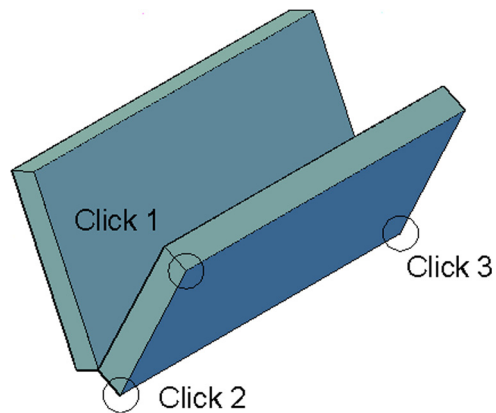

FIGURE 28.6
Step 2. Select the three points in consecutive order to define a plane, as seen in Figure 28.6.